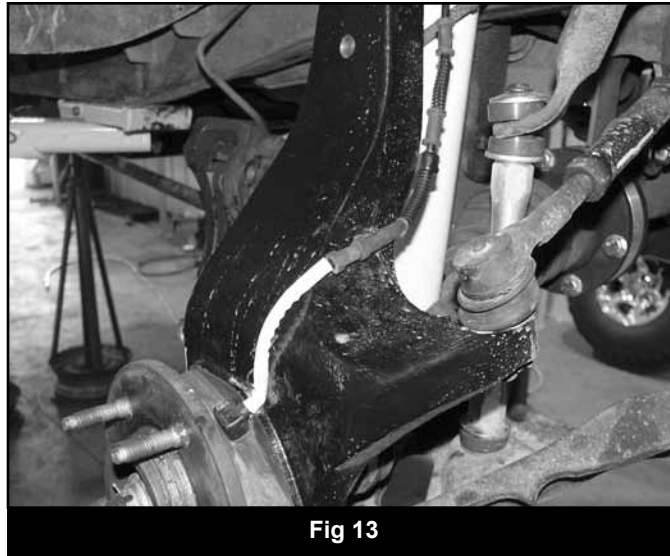

Fig 13
46. Route the ABS wire up the front side of the knuckle, through the control arm and up to the inner fender and reconnect it to the wire connector. Retain the ABS wire to the back of the knuckle with the provided wire clip, 1/4" x 3/4" bolt, lock washer, and flat washer from bolt pack #535 (Fig 13). Tighten the 1/4" bolt to 10 ft-lbs.